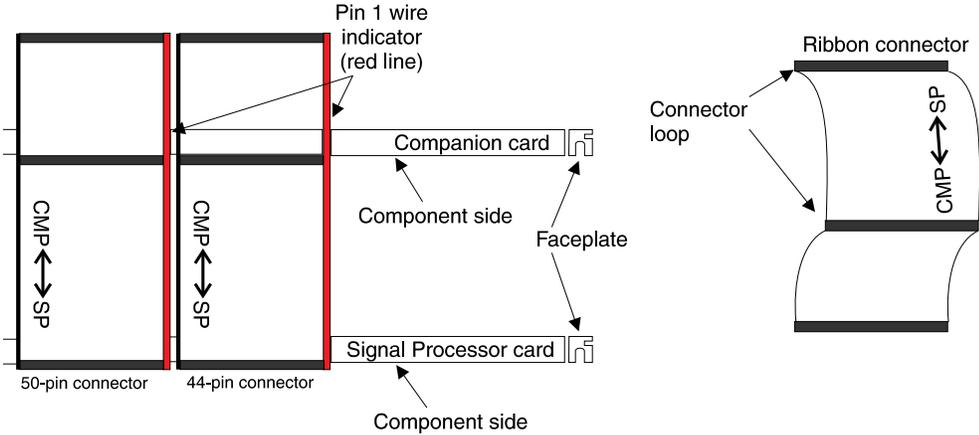
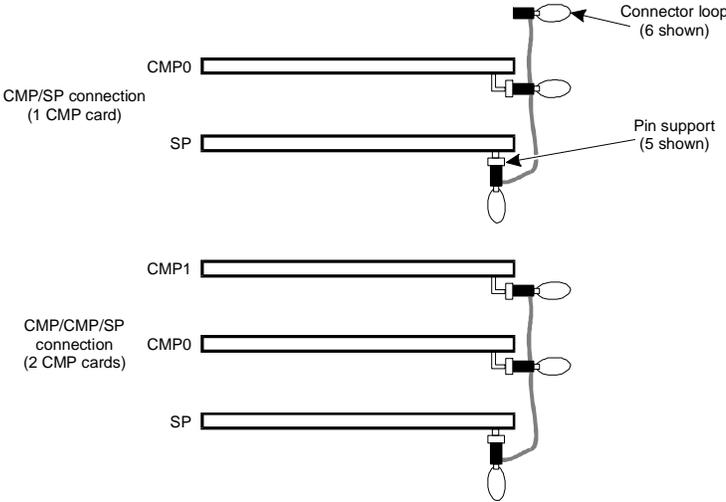

Figure 7-23. Top View of the Signal Processor/Companion Bus Cables
Figure 7-24. End View of Signal Processor/Companion Bus Cables
- The ribbon cables that connect the SP and CMP cards are polarized. Figure 7-23 and Figure 7-24 show how they are oriented with respect to the SP and CMP cards.
5. Push with uniform force across the width of the loop to install the connector. One ribbon is a 50-pin conductor cable. The other is a 44-conductor cable. See Figure 7-23 and Figure 7-24 for the proper cable and card configuration.